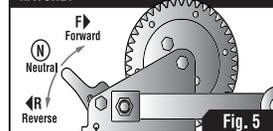

Fig. 5
1. **To pull line off:** First place the ratchet in reverse or neutral position. **Fig. 5**